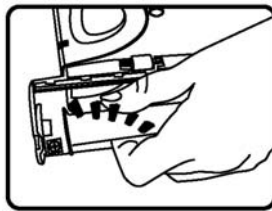

Fig. 14
6. Pull the brush bar out of the bushing and slip off the belt to remove the brush bar. (Fig. 14)
7. Insert the new brush bar by first inserting the brush bar into the bushing on the end opposite the driver belt. (Fig. 14)